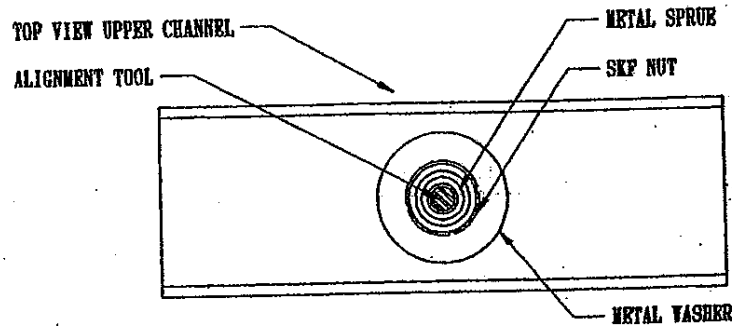

FIG 2
9. The following step is best performed with two people: One to view the alignment tool looking directly down from the top of the **TEKCASTER**. The other person will move around the air cylinder. Viewing the aligning tool from the top of the **TEKCASTER** tap the air cylinder top flange until the alignment tool is perfectly centered in the sprue section. Do not use a steel headed hammer, damage to the air cylinder may result. Refer to fig 2.